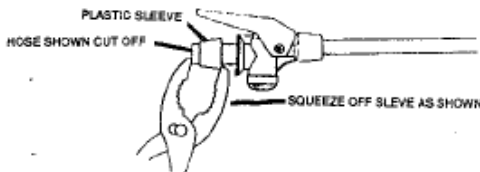

FIG. 9
- If leakage is due to cracked or damaged hose, cut off behind sleeve, remove sleeve with pliers as shown then cut remaining hose off valve head hose fitting. SEE FIG. 9